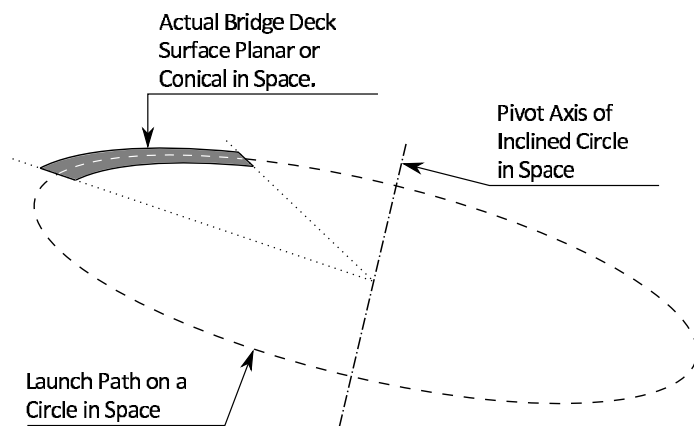

Figure 5: Launch Path of an Inclined Circle in Space (Benade, 2011)
Both of these incremental launch bridges were designed to be launched on a path of an inclined circle in space with small radii. This was due to the restricted space on the site. This launch path significantly reduced the length of the ramps required to tie-in with existing roads. This was a technically challenging part of the design of the interchange which required meticulous attention to detail. The bridge was first designed on a local coordinate system which then had to be transformed to the global coordinate system. This design allowed the bridge deck to be launched westward, over and across the N2 Freeway and then slope down to the final launch position. An added advantage of the design with this launch path was the super-elevation varied naturally along the horizontal component of the deck curvature. Refer to Figure 5 and 6 for details of the launch path of an inclined circle in space.
*Fig. 5: Gross machining of 1200 x 1400 x 4800 mm. EPS blocks was initiated using a hot-wire cutter to produce smaller blocks that were then cut into two halves representing rough versions of the inner and outer formwork. The formwork surfaces were then robotically milled based on the geometries in the digital model (including drilling of holes for the tie-rods)*
The use of a formwork substructure in the milled formwork helped save substantial volumes of EPS. In short, the formwork substructure enabled splitting non-standard geometries into a standard grid that simplified control in the design and building process. For the Demonstrator, all EPS blocks were pre-cut using a hot-wire cutter. The front and back formwork surfaces were cut from one piece, at angles corresponding to the concrete structure's cavity, as shown in Fig. 5.